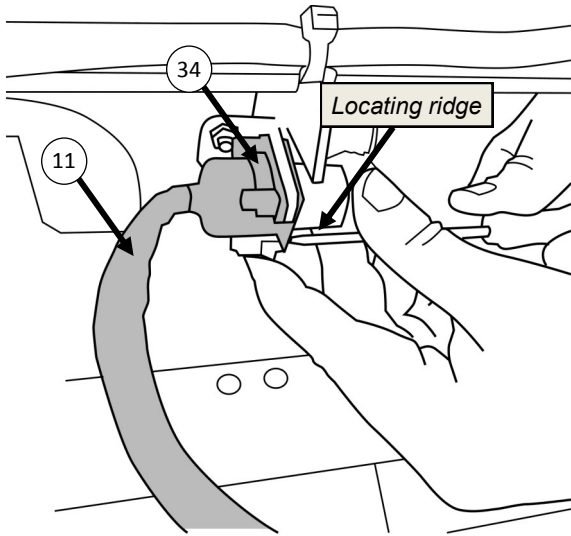

Figure 58: Install Remote Control Socket
- Position locating ridge on Remote Control Socket with opening in remote socket bracket as shown in Figure 58.